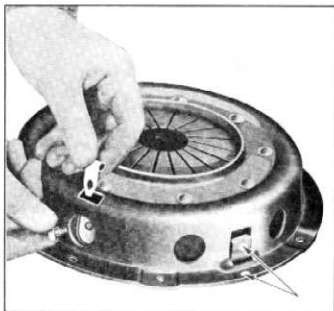

Fig. 136—Removing or Replacing Pressure Plate Retracting Springs
1. Remove the three clutch pressure plate retracting springs (fig. 136) and remove pressure plate from clutch cover.
1. Install the pressure plate in the cover assembly lining up the "O" mark on pressure plate driving lug with "O" mark on flange of cover (fig. 136).
2. Install the three pressure plate retracting springs (fig. 136). The clutch is now ready to be installed.